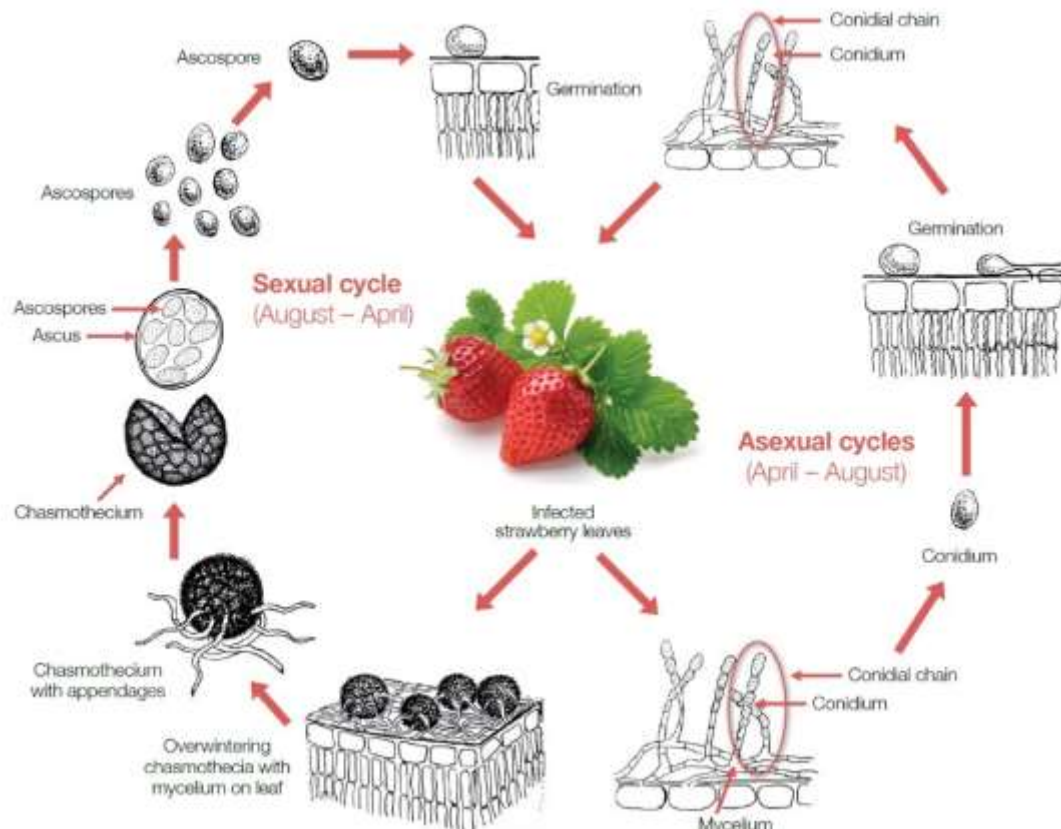

Figure 1 Lifecycle of *P. aphanis* (Xiaolei Jin, 2016)
- Where the crop is overwintered the disease can overwinter as the chasmothecia and then ascospores released in the spring initiate infection (Fig. 1) (the use of fleece may bring this date forward);